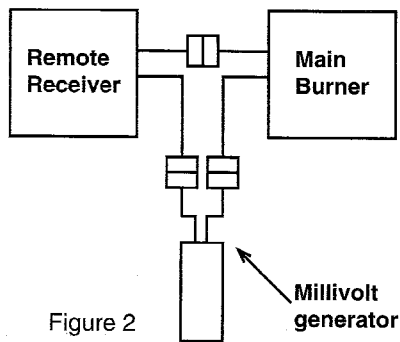

Figure 2
2. Connect the leads to millivolt generator and main burner to the output terminal of the Remote Receiver as shown in Figure 2 and 3. Use the extension cables if necessary.